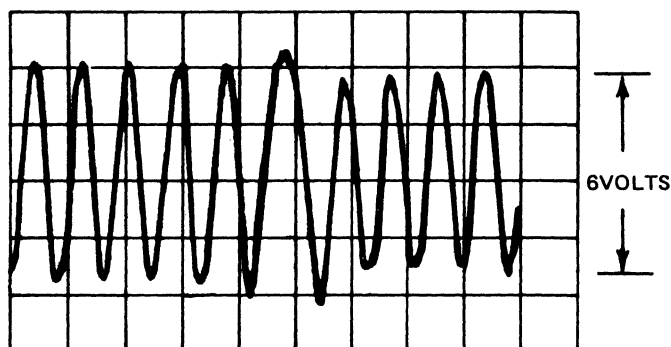

Figure 5-8. Amplifier Waveform (TP104)
- h. Adjust potentiometer R112 until the analog signal displayed on the oscilloscope is 6 volts peak to peak. (Refer to figure 5-8).